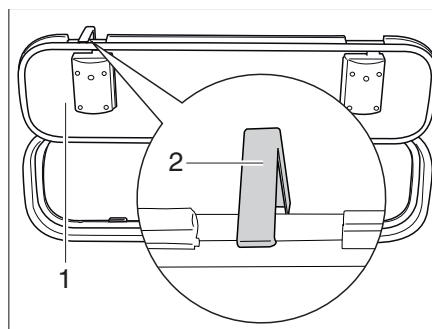

Fig. 55 Securing hook external flap
- Open the external flap (Fig. 55,1) and turn the securing hook (Fig. 55,2) upwards at the vehicle side.
- Press the securing hook (Fig. 55,2) upwards.